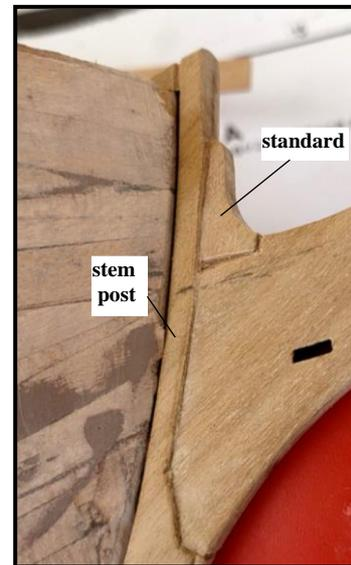

Figure 11: Standard Knee
- another knee, the *standard* (Fig. 11) at the upper end.